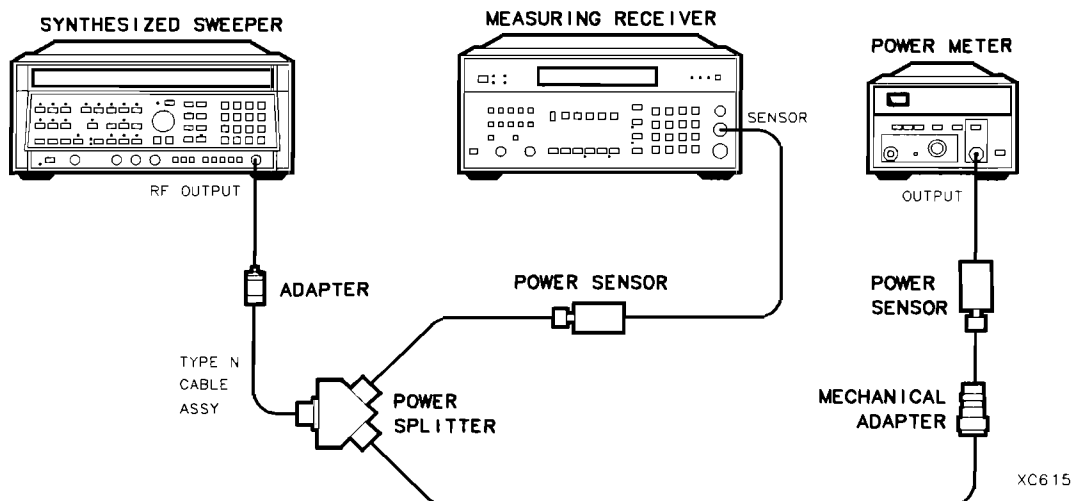

Figure 2-26. System Characterization Test Setup for 75 Ω Input
4. Connect the equipment as shown in Figure 2-26.